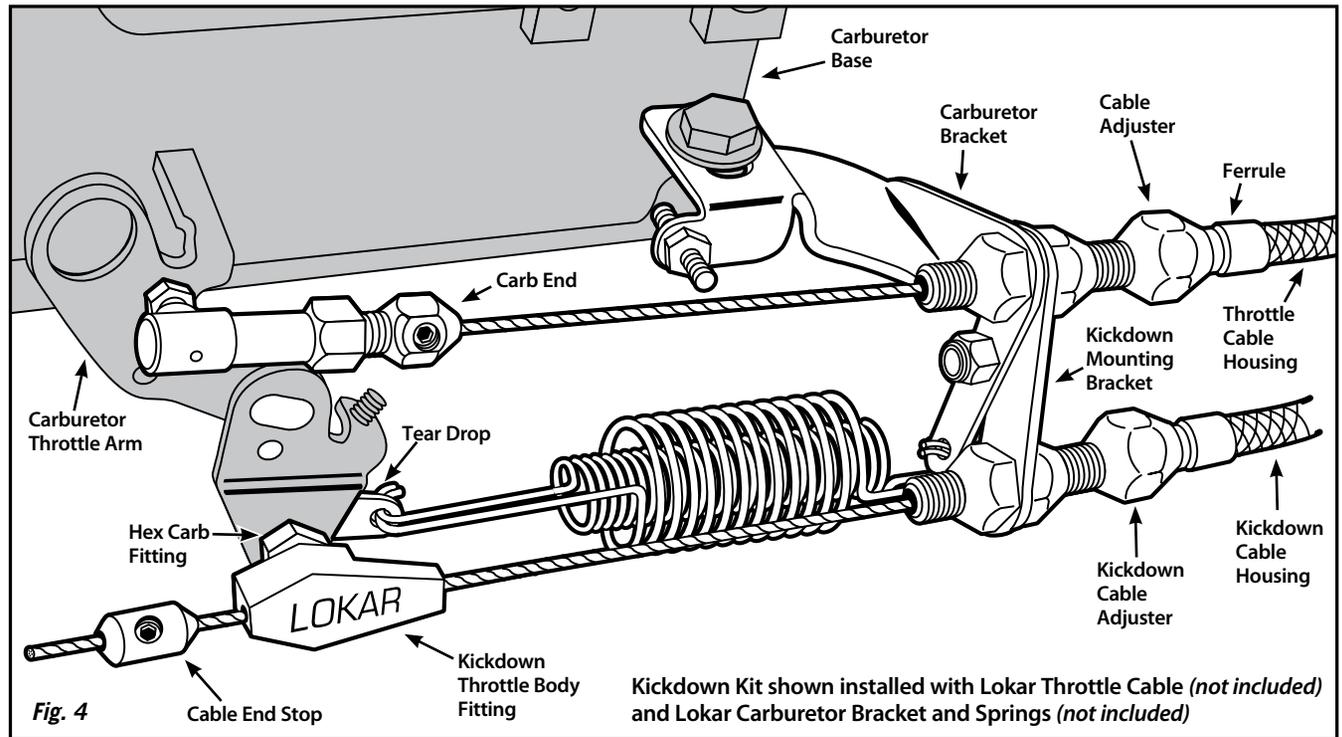
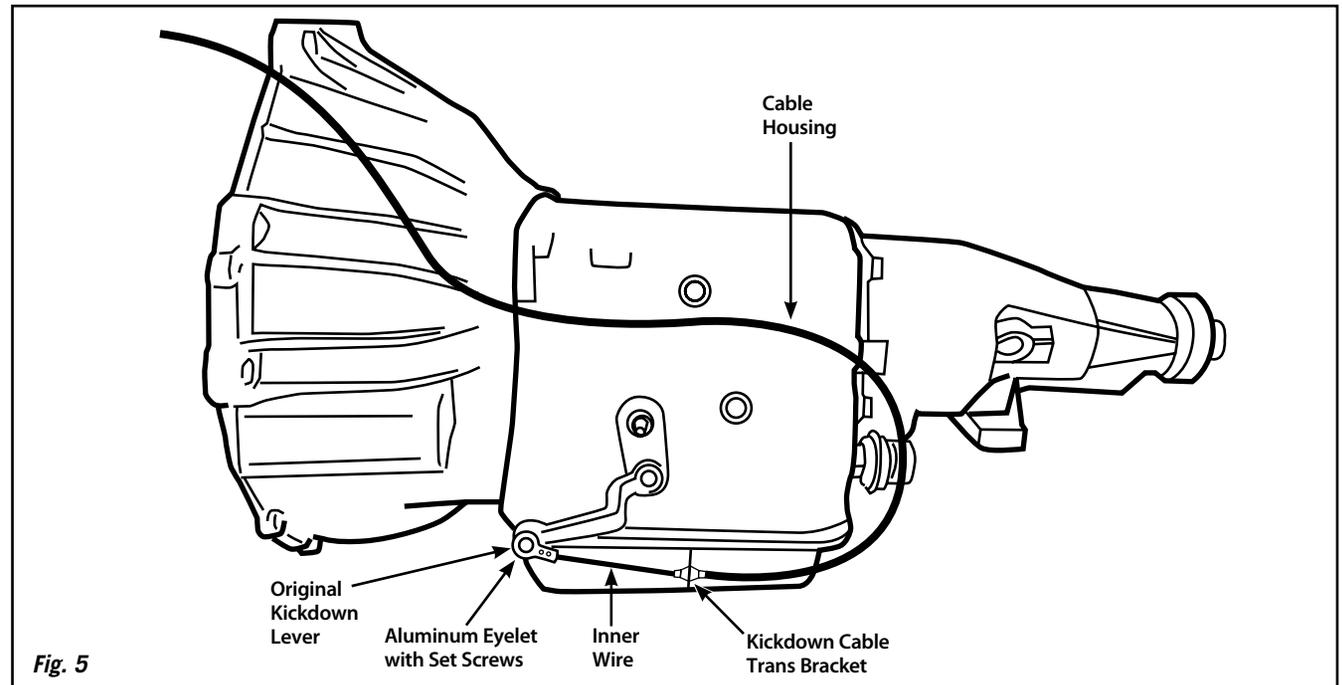

Fig. 4
Fig. 5
Step 6: The tear drop (not included, part of the Throttle Cable Bracket & Spring Kit) will be attached to the carburetor throttle arm by the hex carb fitting. Separate the hex carb fitting from the kickdown throttle body fitting. Install the hex carb fitting and the tear drop onto the carburetor throttle arm as shown in **Fig. 4**. Hook the return springs (not included, part of the Throttle Cable Bracket & Spring kit) to the tear drop and tighten the hex carb fitting.
Once the kickdown cable is correctly adjusted and operating properly you can cut off the excess inner wire, leaving about 1/2" extending beyond the cable end stop to allow for future adjustment if needed. Final installation should look like Fig. 4 at the engine and Fig. 5 at the transmission.